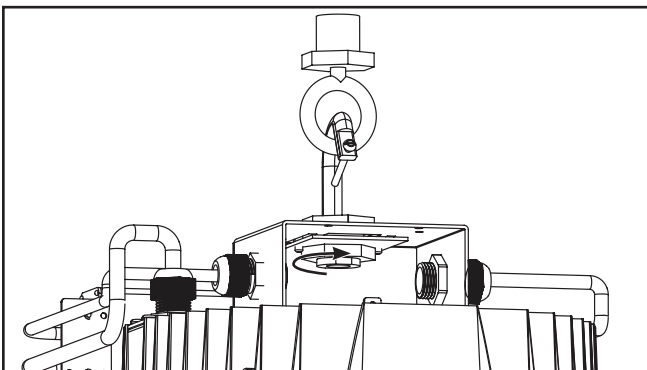

Figure 5.
- 9. Secure jam nut to the mounting hook threads inside of junction box and tighten it securely against the adjustable mounting plate. (Figure 5)